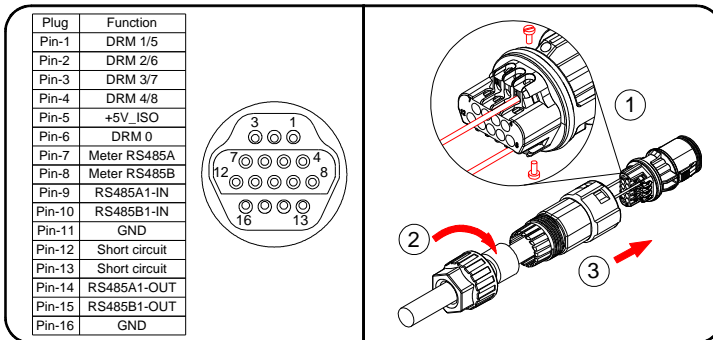

FIG 4-4 Assembling the Connector
- Step 2: Insert the conductors into the corresponding pins of the plug(see table in FIG 4-4), and then fix the conductors by screws firmly, as per FIG.5-4. Tool: Phillips screwdriver #1. Torque: 0.6~0.8N.m.
- Step 3: Tighten the pressure nut, and then push the threaded sleeve into the plug, as per FIG 4-4.